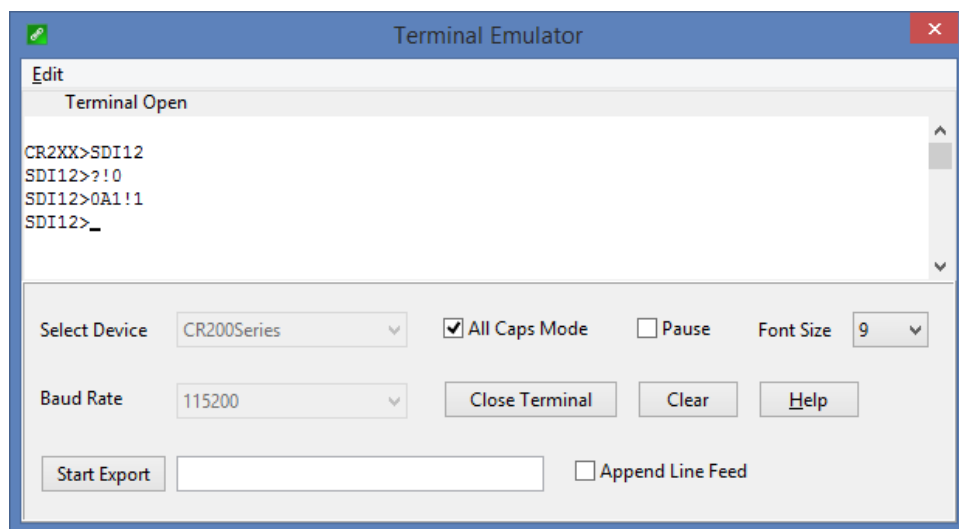

FIGURE B-2. CR200(X) example of using the SDI-12 transparent mode to change the SDI-12 address from 0 to 1
B.2.2 Changing an SDI-12 address — CR200(X) Series
10. To change the SDI-12 address, type **aAb!**, where **a** is the current address from the previous step and **b** is the new address (see FIGURE B-2 (p. 27)). Press **Enter**. The sensor changes its address and responds with the new address.